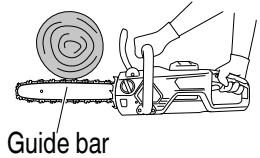

Fig. 24
(5) When cutting into wood from the bottom, touch the upper part of the guide bar to the wood lightly. (Fig. 24)
(6) As well as carefully studying the handling instructions, ensure practical instruction in the operation of the chain saw prior to use, or at least practice working with the chain saw by cutting lengths of round timber on a sawing trestle.